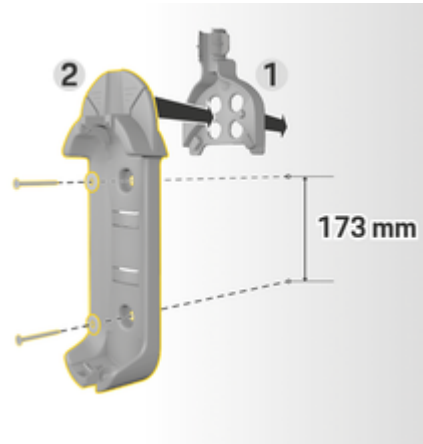

Fig. 28: Drilling dimensions
3. Press the basic wall mount **2** (Fig. 28) into the cable guide **1** (Fig. 28) from the front.